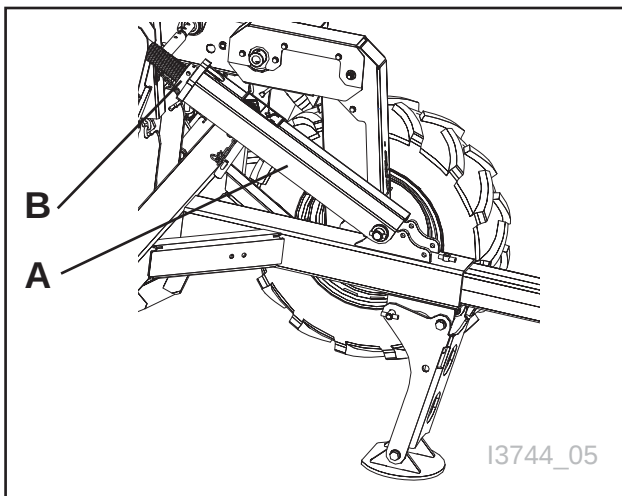

Fig. 52
See Fig. 52
See Fig. 52 to required setting.
see Fig. 52 (B).